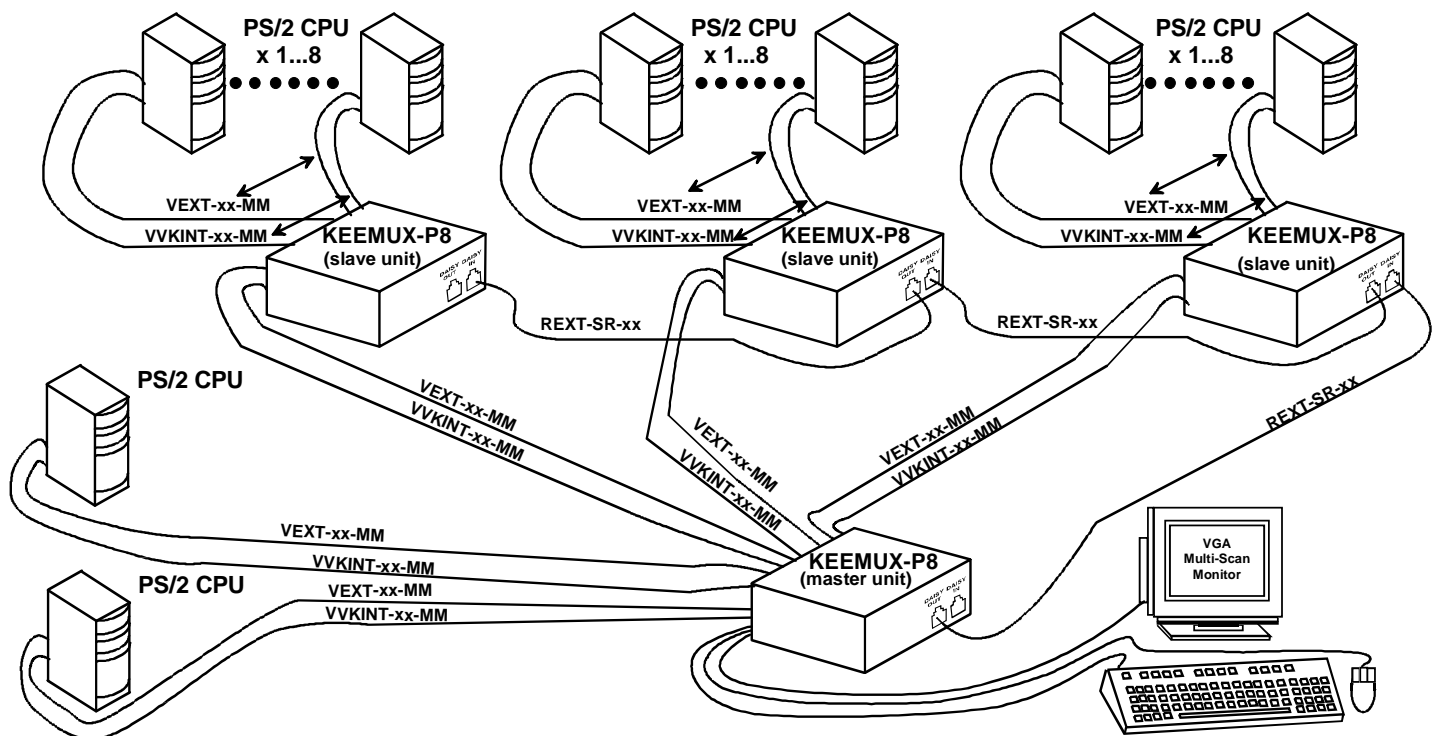

Figure 5- Cascaded configuration
The KEEMUX switch can be expanded to access up to 152 CPUs by cascading multiple units together, as illustrated below. The KEEMUX connected to the monitor and keyboard must be configured as the "master unit" (via dip-switches). Any switches connected to the master unit must be configured as "slave units". All KEEMUXs are fully configurable for this expansion method. The only additional hardware required is a set of keyboard, monitor, mouse, and RMT extension cables for each slave unit (see Fig. 5 below).
- With a VVKINT-xx-MM or (2) VKEXT-xx-MMs, connect slave #1's PS/2 DEVICES ports to the master's CPU1 KEYBOARD and MOUSE ports.
- Repeat steps c and d for each additional slave unit, keeping in mind that each slave will connect to the next available master's port (i.e. slave #2 to master's VIDEO 2 and CPU 2 KEYBOARD and MOUSE, etc.). See Fig. 5 below.
Please note: If the switches are being cascaded (such as that illustrated in Fig. 5 on page 5 under “Cascading”), make note of which port each of the CPUs is connected to on each slave and which port each slave is connected to on the master. .